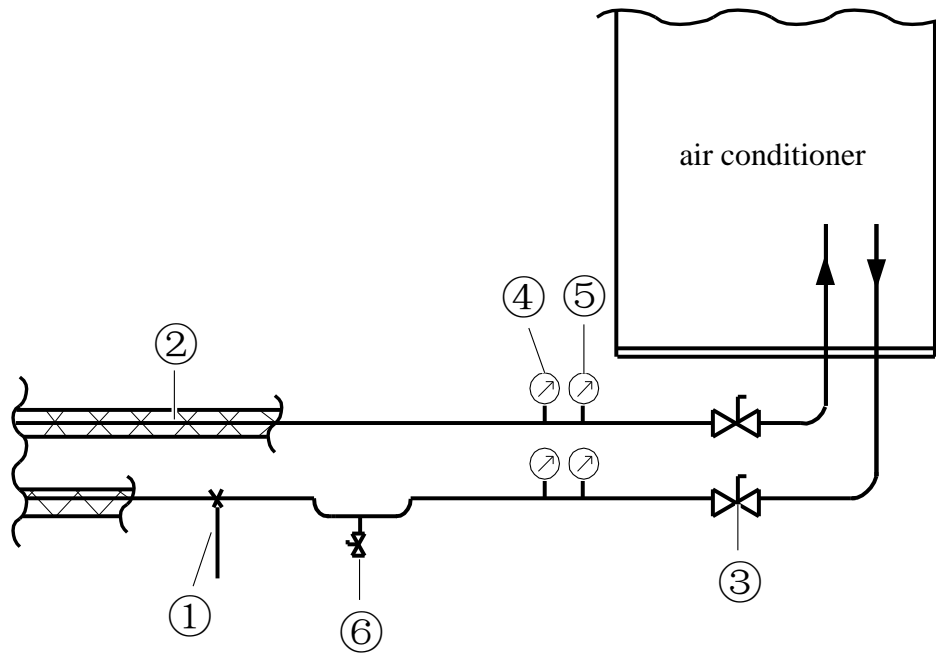

Figure 2-22 Chilled water circuit
The chilled water pipe is shown in Figure 2-22. Following is the description of the chilled water pipe:
- Place the pipes on the saddle-shaped bracket (shown as 1) in Figure 2-22.
- Use the thermal insulation pipes (shown as 2 in the same Figure 2-22) mainly to insulate the pipes thermally.
- Install the ball valves (shown as 3 in Figure 2-22) at the end in the inlet and outlet of the air conditioner for easy maintenance and repair.